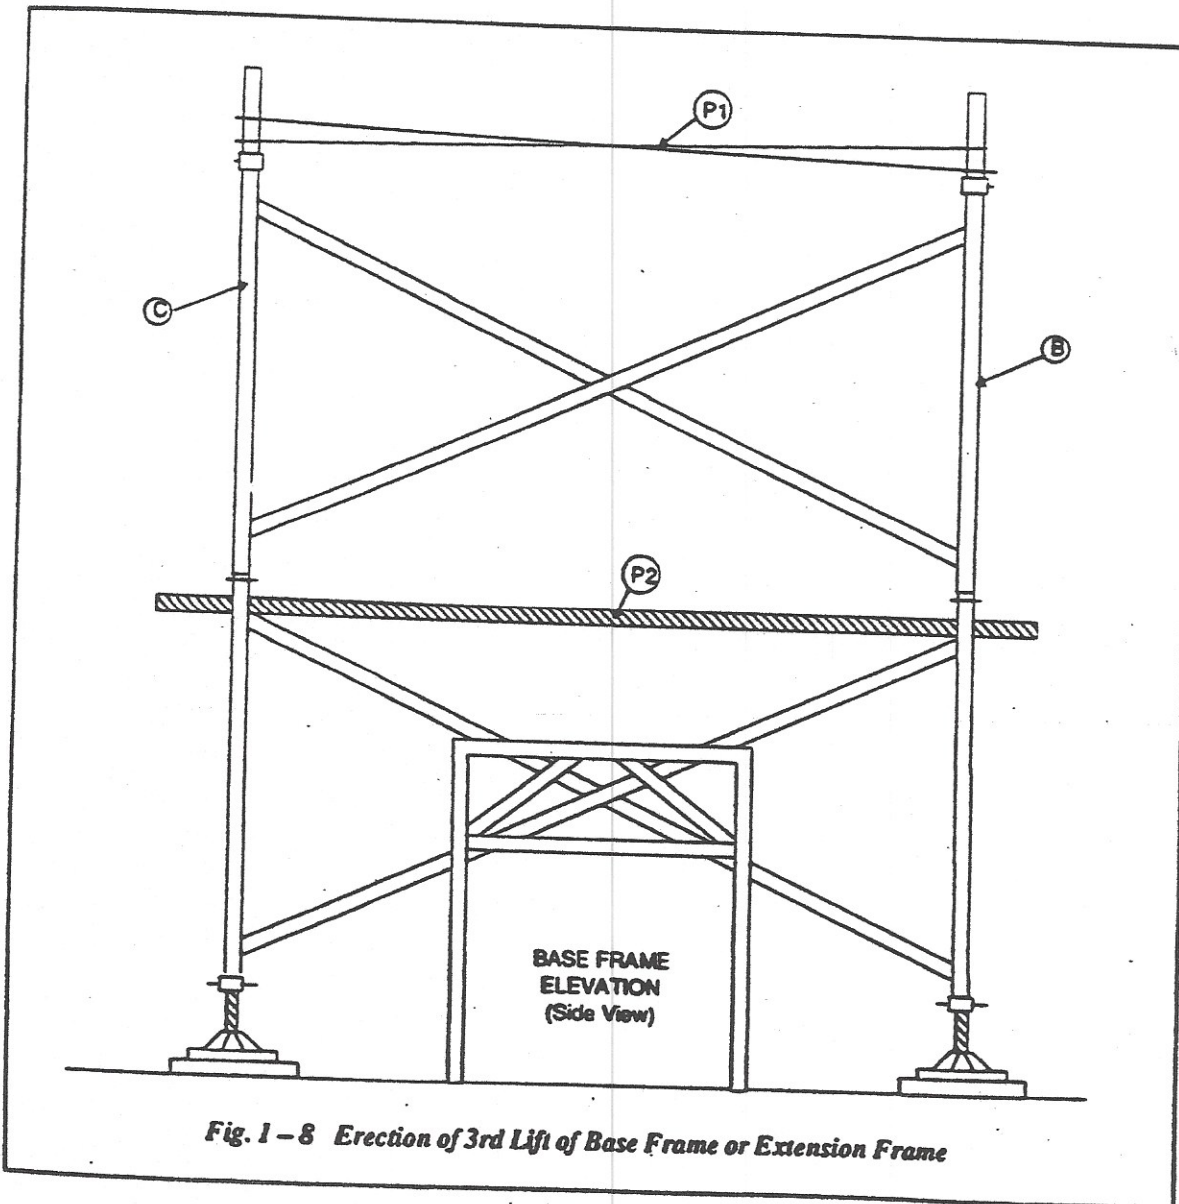

Fig. 1-8 Erection of 3rd Lift of Base Frame or Extension Frame
- a. 2 men on plank P1 raise plank P2 and place in center of tower across top rung of 2nd lift frames B and C. (See Fig. 1-8)